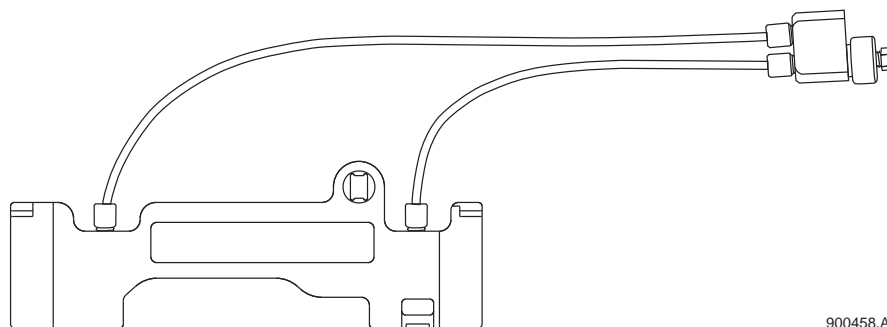

Figure 5.5 EDA-Only Cartridge
1. Referring to Figure 5.5, remove any existing capillary and end seals. If rebuilding an EDA-only cartridge, skip steps 2 and 3.